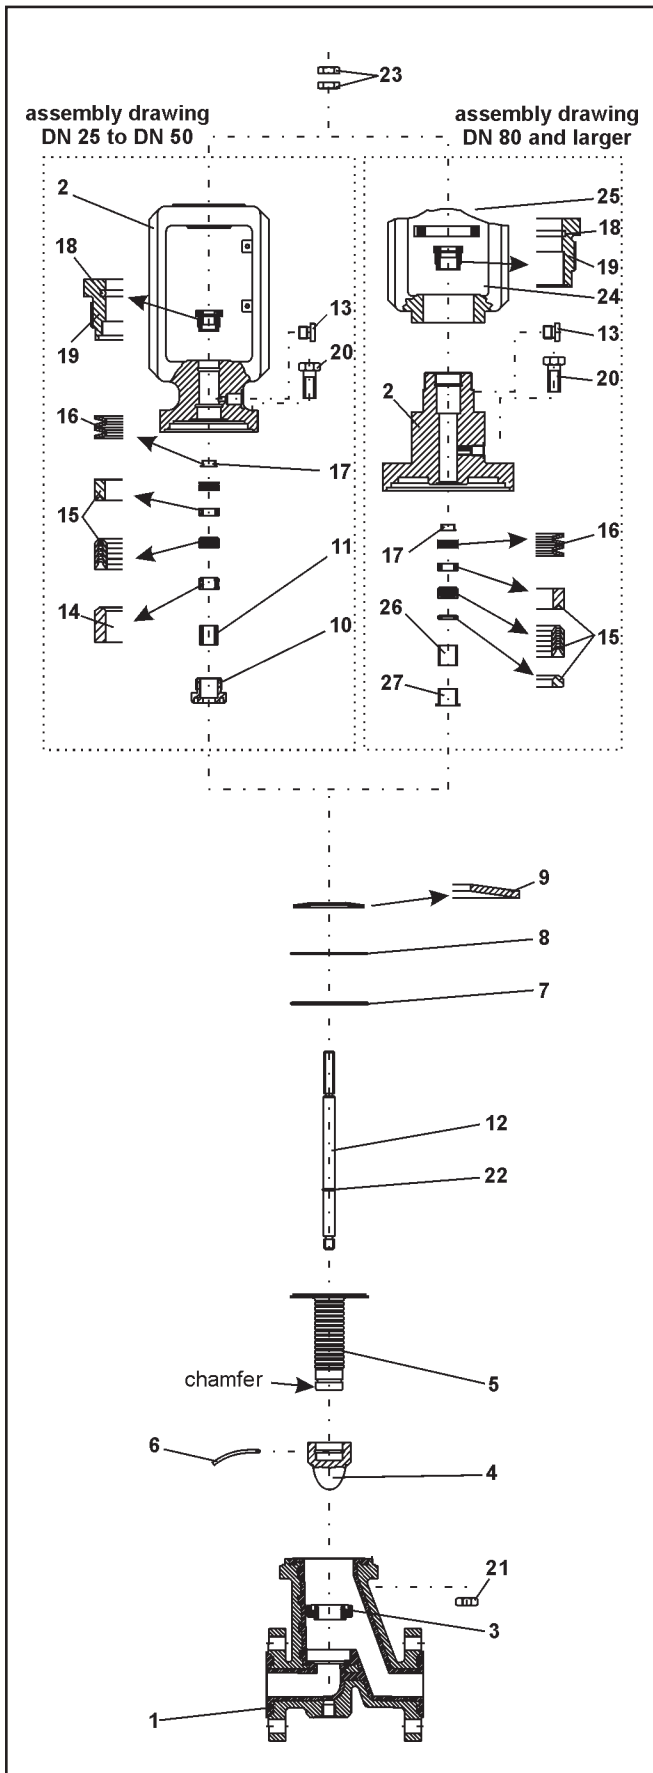

Fig 5 - Explosion drawing of control valve, Series 1b, up to construction year 2006
Note: The position and arrangement of the individual parts shown in the explosion drawing (Fig. 5) must be observed when assembling the valve.
Place the spring washer set (16) in the intended bore. Refer to the explosion drawing (Fig. 5) for the layout and arrangement.
In the correct order, insert now the; End ring, the V-ring of the V-ring packing (15), and the distance bushing (14). Also here, refer to the explosion drawing (Fig. 5) for layout and arrangement.
Finally, insert the spring washer set (16). Also here, refer to the explosion drawing (Fig. 5) for the lay-out of the spring washers.
Place the spring washers (9), the thrust washer (8) and the O-ring (7) into the bonnet flange (2). Refer to the explosion drawing (Fig. 5) for the position and arrangement of the individual parts.